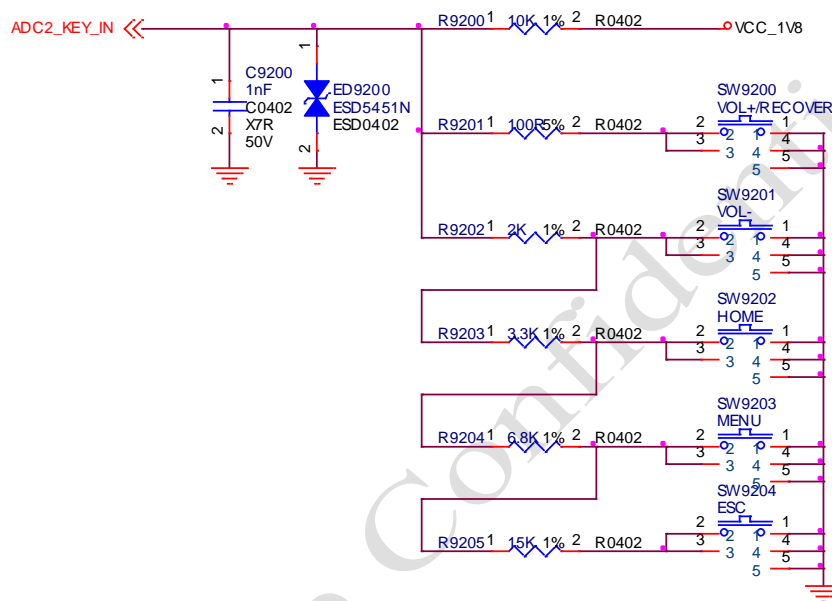

Figure 3-6 EVB Button Design
2. ADC power supply is provided by VCC_1V8, and the corresponding key value can be calculated according to the resistance parameter in Figure 3-6.